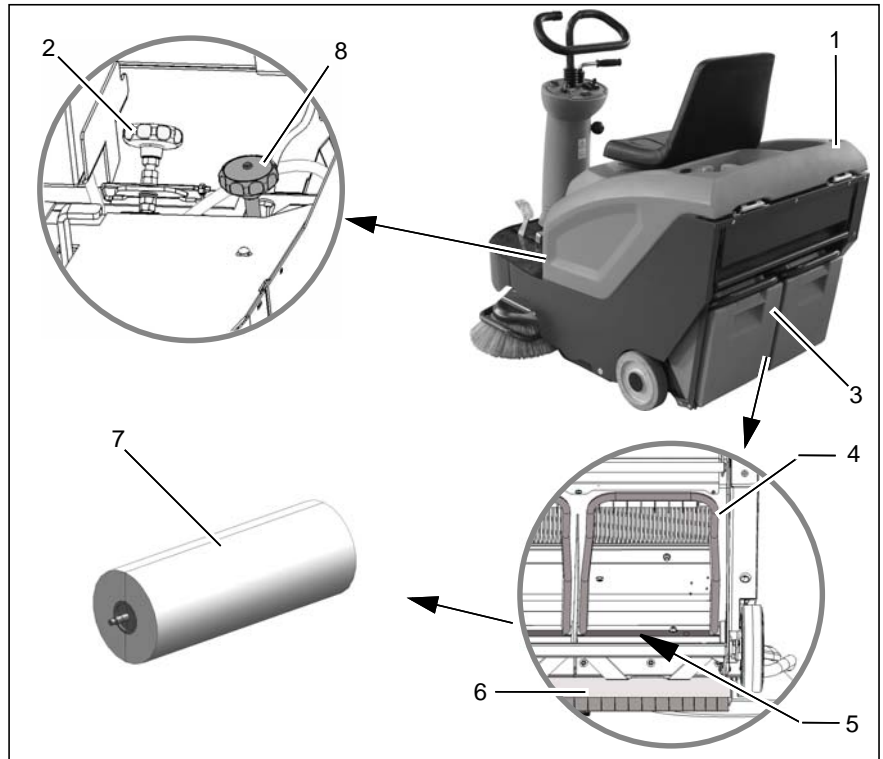

Fig. 20
For the left-hand side broom (option), use the adjusting bolt (Fig. 20/8).
Check the broom space (Fig. 20/5) daily for soiling and clean it as necessary.
2. Remove the dirt hoppers (Fig. 20/3) and empty them.
3. Clean the broom space (Fig. 20/5) and check for signs of damage.
The sweeping pattern must be readjusted in the case of bristle wear and after changing the cylindrical broom (Fig. 20/7).
2. Open the seat console (Fig. 20/1) and secure with the safety support.
3. Turn the adjusting bolt (Fig. 20/2) until the cylindrical broom (Fig. 20/7) touches the ground.